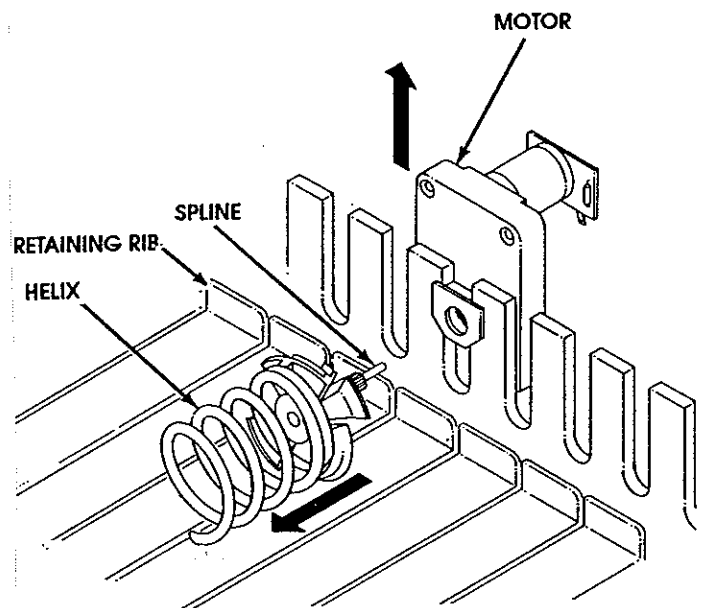

Figure 12. Separating the Auger and Motor
3. Raise the motor slightly and pull forward on the auger until it separates from the motor. See Figure 12.